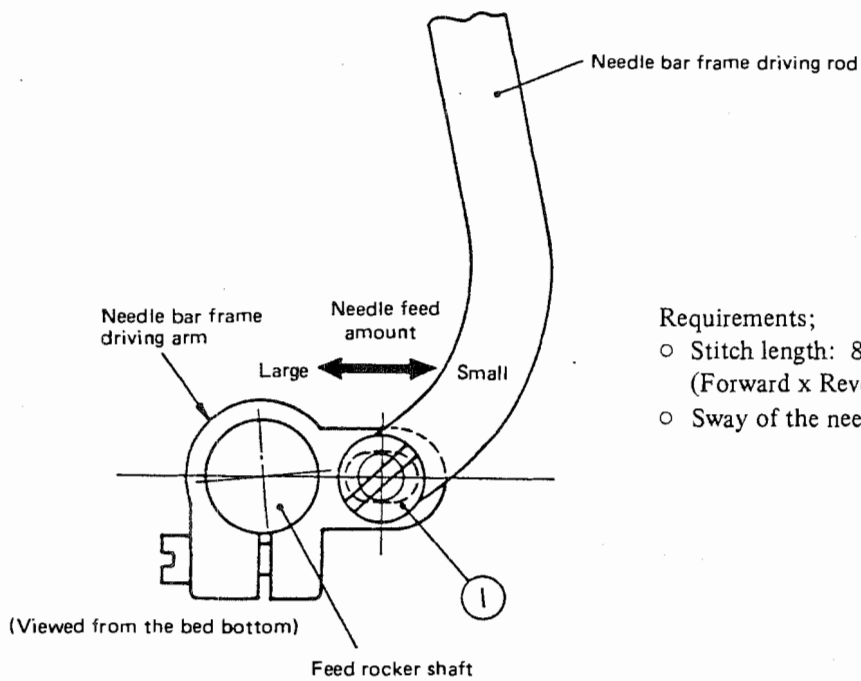

Fig. 25
<p>1. Set the stitch dial to the maximum.</p> <p>2. Loosen screw ① shown in Fig. 25, and move the needle bar frame driving rod to make adjustment.</p> <p>3. Tighten screw ①, and turn the handwheel by hand to check the sway of the needles. Position the needle bar frame driving rod so that the needle sway is minimized. Then fix the rod to the needle bar frame driving arm.</p> <p>(Note) 1) After this adjustment, the position of the needle center with respect to the needle feed slots must be readjusted.</p> <p>2) The specified distance (14.2 (0.559") ± 0.1 (0.04")) mm between the presser bar and needle bar is also disturbed in making the above adjustment. Readjust the distance.</p>	<ul style="list-style-type: none"> <li>○ Needle breaking may occur.</li> <li>○ Stitch skipping may occur.</li> </ul>